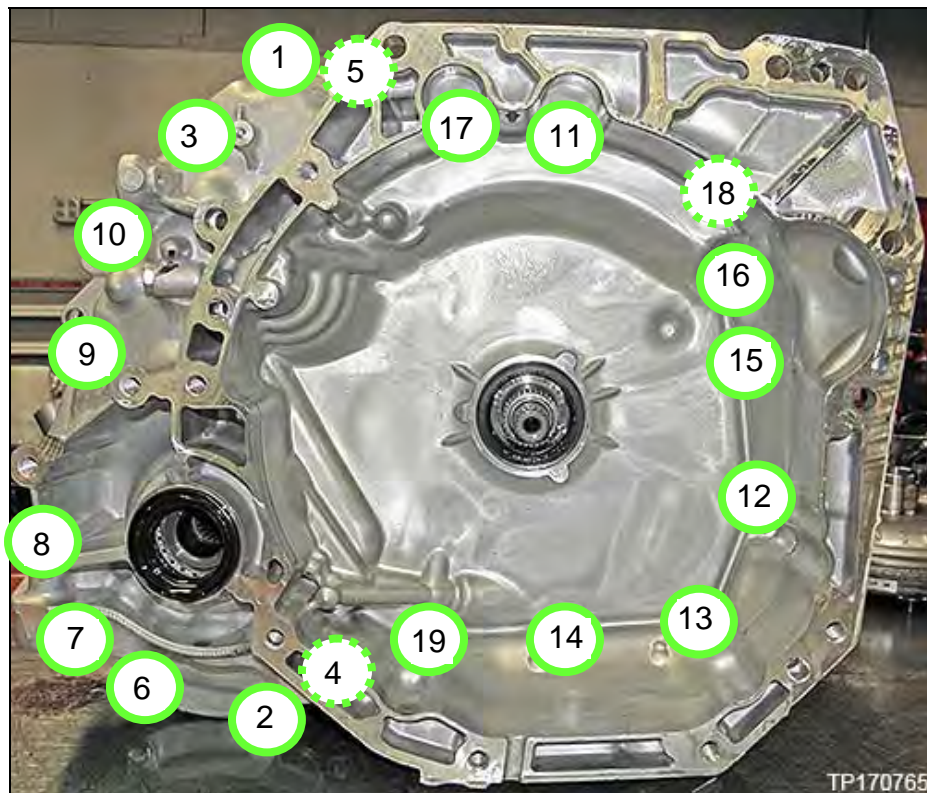

Figure 3S
4. Install the torque converter housing onto the CVT case with nineteen (19) new bolts and torque to the pattern shown in Figure 3S.